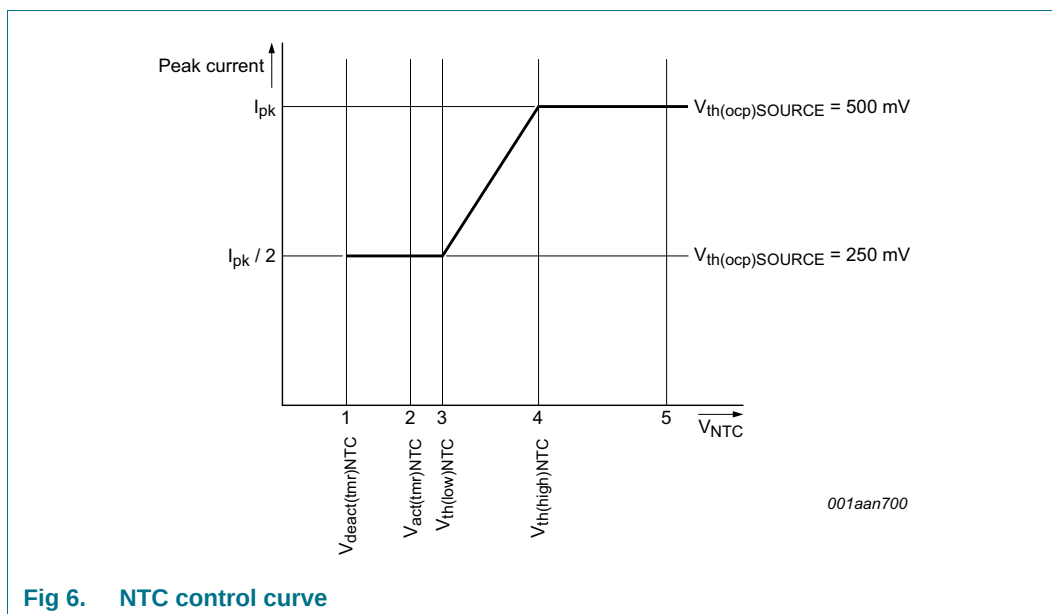

Fig 6. NTC control curve
The NTC pin can be used as a control method for LED thermal protection. Alternatively, the pin can be used as an input to disable/enable light output using a digital signal (PWM current regulation). The pin has an internal current source that generates the $I_{\text{offset(NTC)}}$ current. To monitor the LED temperature, an NTC resistor can be connected directly to the NTC pin. Depending on the resistance value and the corresponding voltage on the NTC pin, the converter reacts as shown in Figure 6.
When the voltage on the NTC pin exceeds $V_{\text{th(high)NTC}}$ (see Figure 6 \(4\)), the converter delivers nominal output current. When the voltage is lower than this level, the peak current is gradually reduced until $V_{\text{th(low)NTC}}$ is reached (see Figure 6 \(3\)). The peak current is now half the peak current of nominal operation. When $V_{\text{act(tmr)NTC}}$ is passed (see Figure 6 \(2\)), a timer starts to run to distinguish between the following situations:
- If the low-level $V_{\text{deact(tmr)NTC}}$ is not reached within time $t_{\text{to(deact)NTC}}$ (see Figure 6 \(1\)), LED overtemperature is detected. The IC stops switching and attempts to restart from the HV pin voltage. Restart takes place when the voltage on the NTC pin is higher than $V_{\text{th(low)NTC}}$ (see Figure 6 \(4\)). It is assumed that the reduction in peak current does not result in a lower NTC temperature and LED OTP is activated.
- If the low-level $V_{\text{deact(tmr)NTC}}$ is reached within the time $t_{\text{to(deact)NTC}}$ (see Figure 6 \(1\)), it is assumed that the pin is pulled down externally. The internal current source $I_{\text{offset(NTC)}}$ is switched off in this mode. The restart function is not triggered. Instead, the output current is reduced to zero. PWM current regulation can be implemented this way. The output current rises again when the voltage applied on the NTC pin is higher than $V_{\text{th(low)NTC}}$.